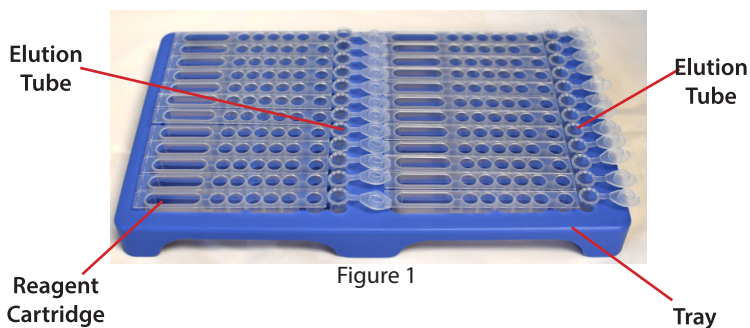

Figure 1
3. Carefully remove seal from cartridges and immediately place the cartridge on the tray when ready along with the Elution Tubes into the corresponding positions (Figure 1).
5. Ensure the Elution Tubes are positioned open with caps oriented to the right of the tube and pressed down (Figure 3). If there is another reagent cartridge on the right side, make sure the elution tube caps are tucked under the lip of the first well as shown in Figure 1.